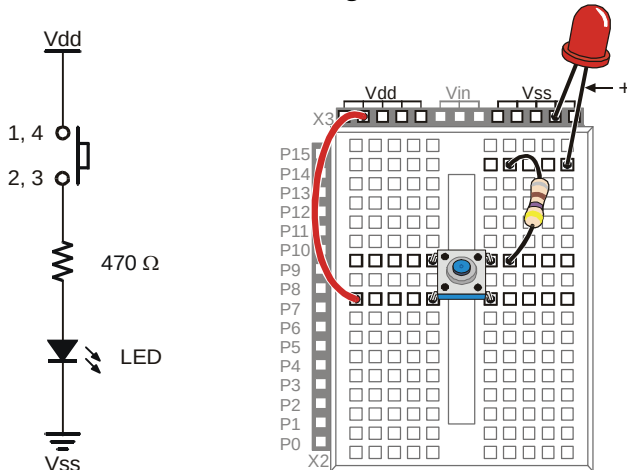

Figure 3-3
Figure 3-3 shows a circuit you can build to manually test the pushbutton.
- ✓ Build the circuit shown in Figure 3-3.